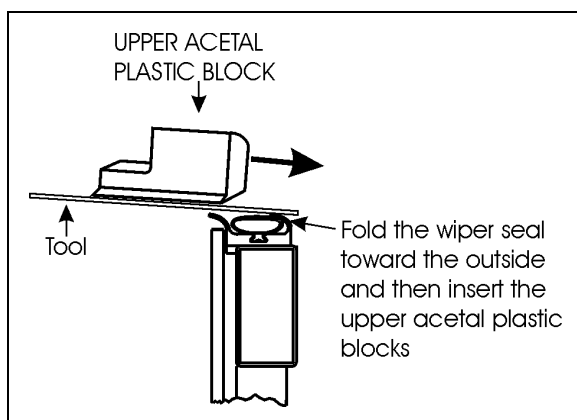

FIGURE 28: LOWER ACETAL PLASTIC BLOCK INSERTION
6. Installation is the same as removal but in reverse order. When reinstalling the upper acetal plastic blocks, fold the wiper seal toward the outside with a flat tool to ease installation (FIGURE 28). Before tightening, make sure the acetal plastic blocks are leaning against the rail and the linear bearing. Tighten the mounting screws to a torque of 7 ft-lb.